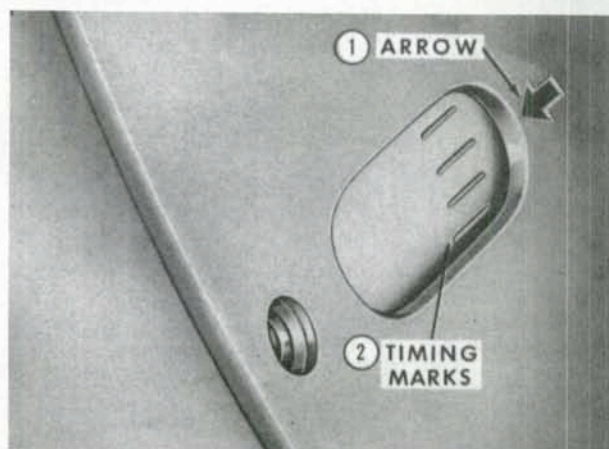
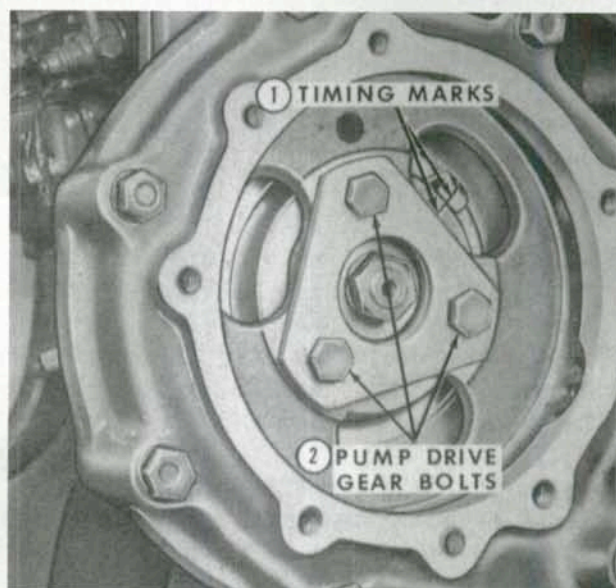

Fig. 116—View with cover plate removed showing timing pointer on engine rear plate and timing marks on flywheel.
Fig. 117—Remove pump drive gear cover from front of timing gear cover to view injection pump timing marks.
**74. PUMP TIMING.** To check and adjust pump to engine static timing, proceed as follows: Remove cover plate from front of timing gear cover, and remove flywheel timing hole cover plate from right side of engine rear cover plate. Turn crankshaft in normal direction of rotation until No. 1 piston is on compression stroke and 25 degree BTDC flywheel timing mark on flywheel is aligned with arrow at edge of timing hole (Fig. 116). At this point, timing marks on pump drive gear adapter hub and pump housing must be aligned as shown in Fig. 117. If timing marks are not aligned, loosen the three cap screws that retain drive gear to pump drive hub. Rotate the pump shaft and hub until timing marks are aligned, then tighten cap screws.